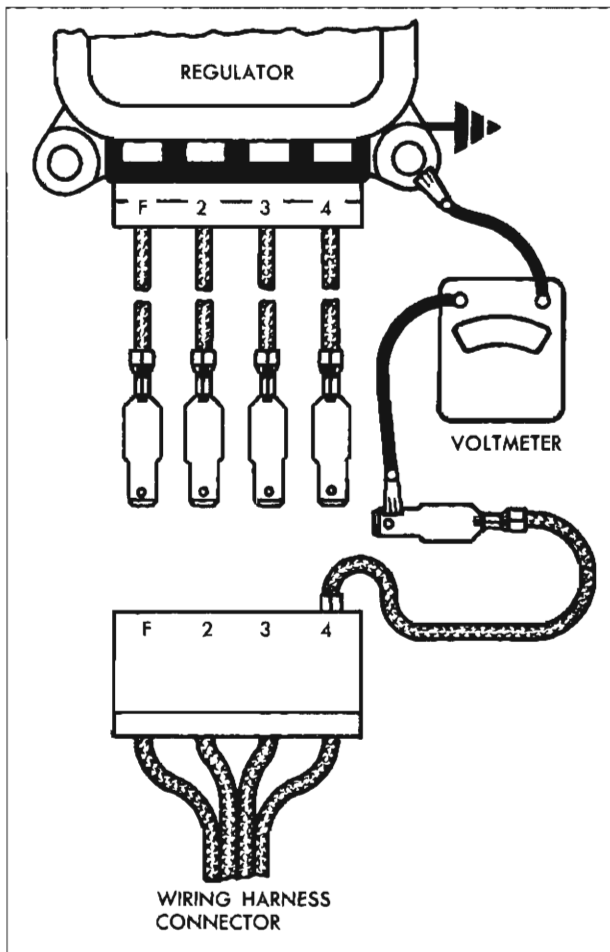

Fig. 9—Indicator Circuit Resistant Checks
1. Connect a voltmeter from the wiring harness connector to ground as shown in Figure 9.